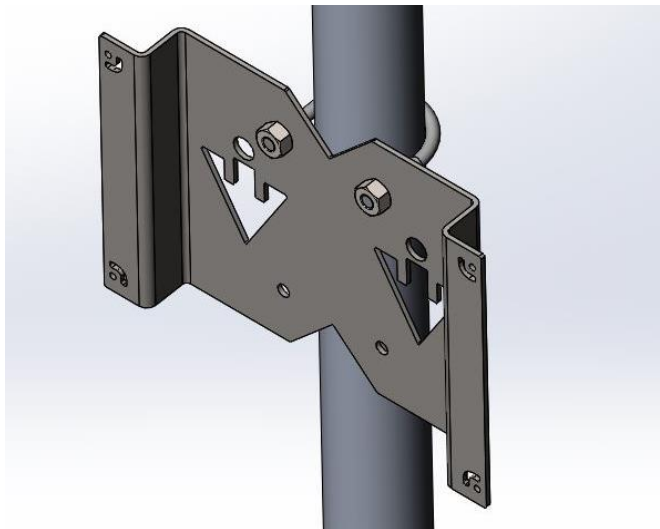

Figure 2-17. Mounting Bracket with U-Bolt and Nuts
4. Thread the two nuts that were removed from the U-Bolt in Step 2 back on. Move the mounting bracket to the desired location. Tighten the nuts down fully ensuring the bracket stays straight and level. The assembly should resemble that of Figure 2-17.